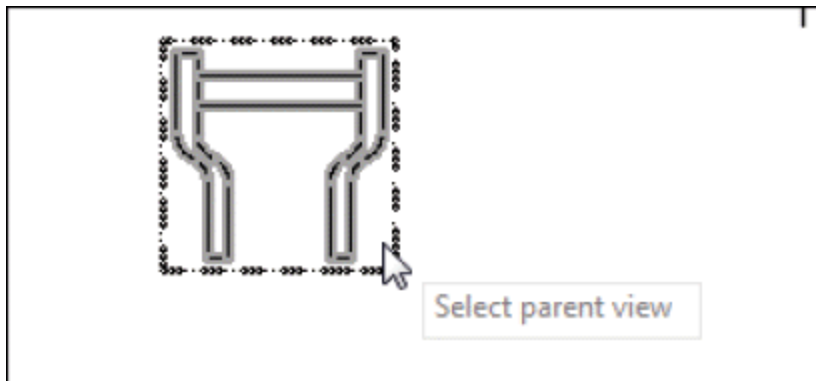
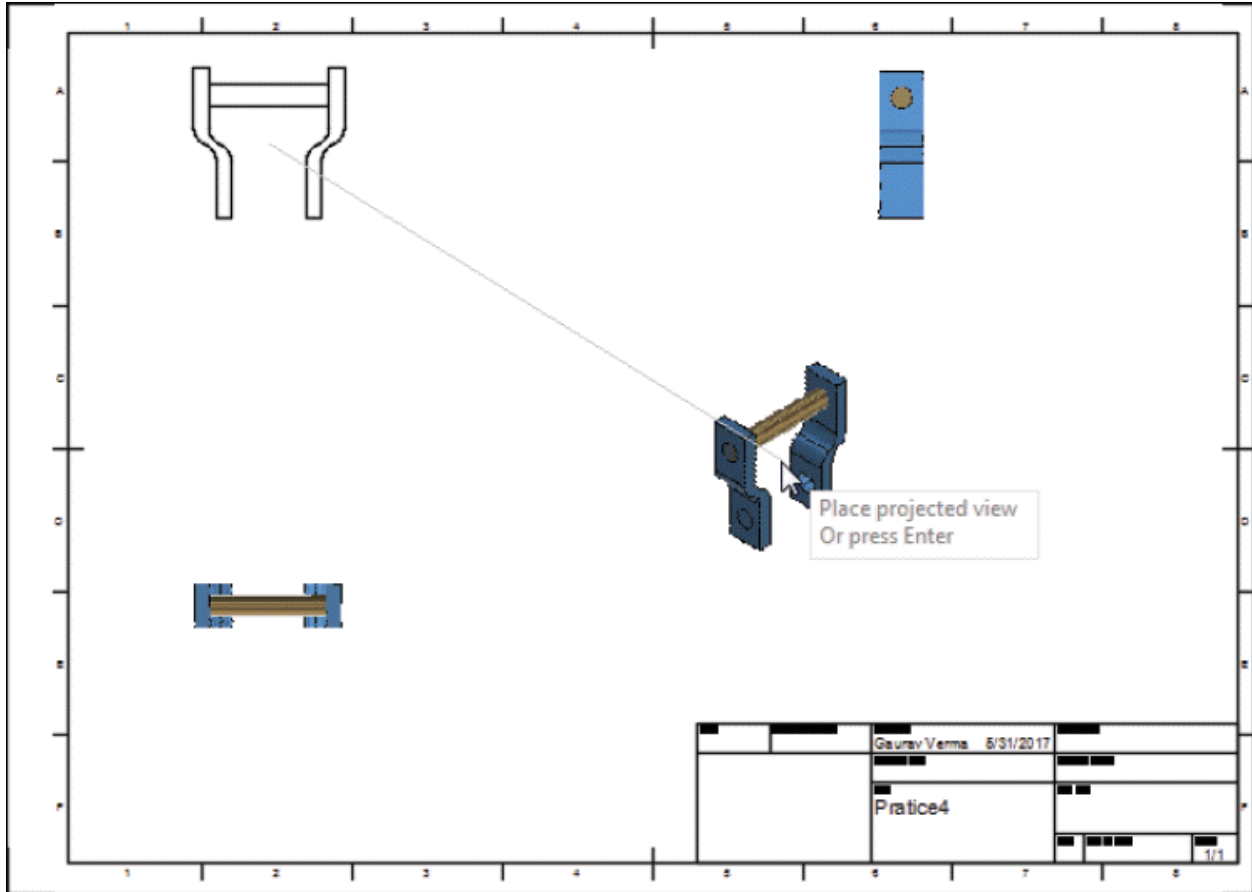

Figure-8. Selecting parent view
Figure-9. Placing projected view
- Click on the pre-existing base view from drawing sheet to select the view as parent view; refer to Figure-8. The projected view will be attached to the cursor; refer to Figure-9.